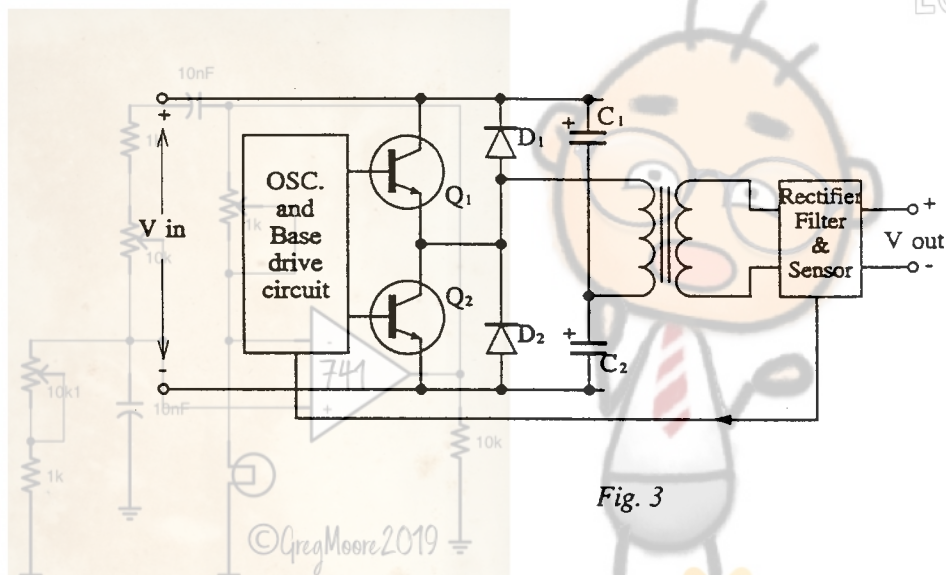

Fig. 3
6. Refer to the circuit in Fig. 3. This transistor configuration is described as: